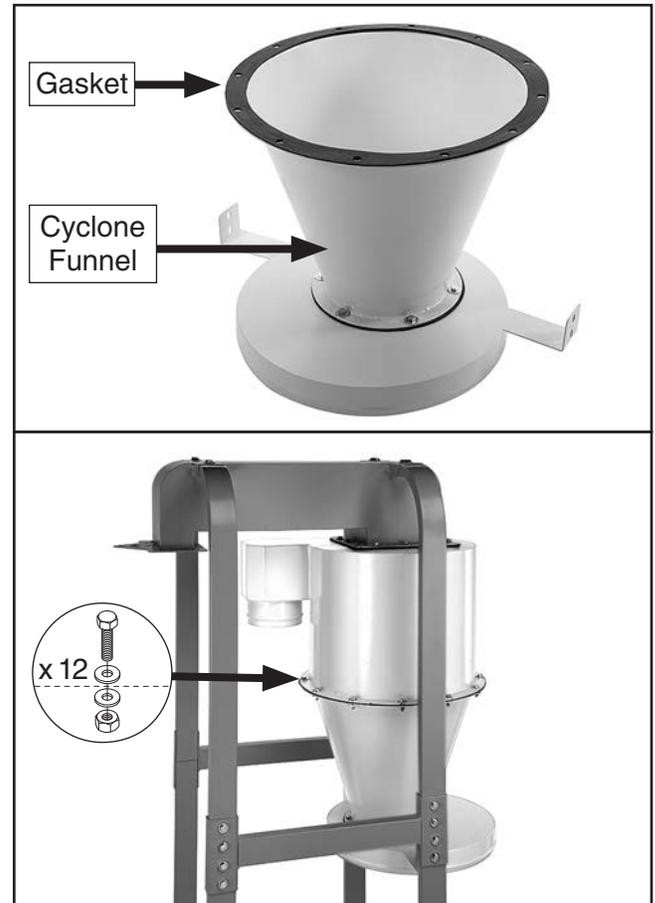

Figure 19. Cyclone funnel attached to intake barrel.
- Place rubber gasket on cyclone funnel (see **Figure 19**, inset), then attach cyclone funnel to intake barrel using (12) $\frac{5}{16}$ "-18 x 1" hex bolts, (24) $\frac{5}{16}$ " fender washers, and (12) $\frac{5}{16}$ "-18 hex nuts (see **Figure 19**). Finger-tighten for now.